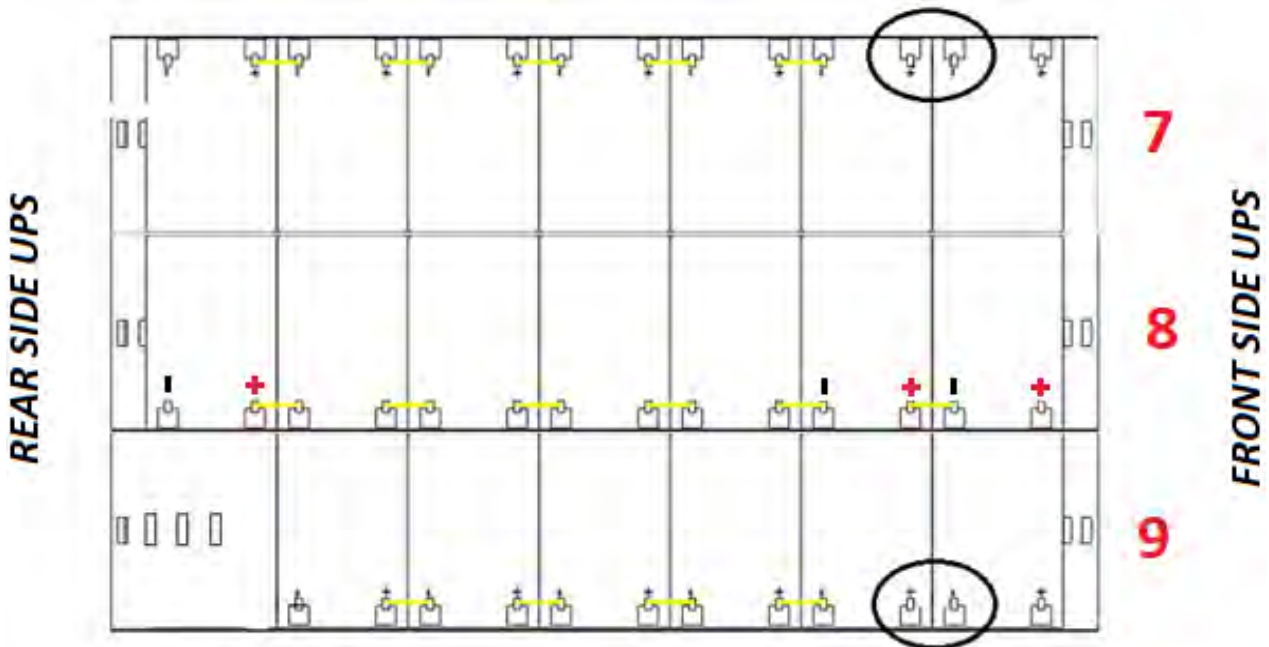

Figure 35 - View from above Level No.3
9) On Level no. 3, insert trays no. 7-9 in compliance with the position as demonstrated in Figure 35.